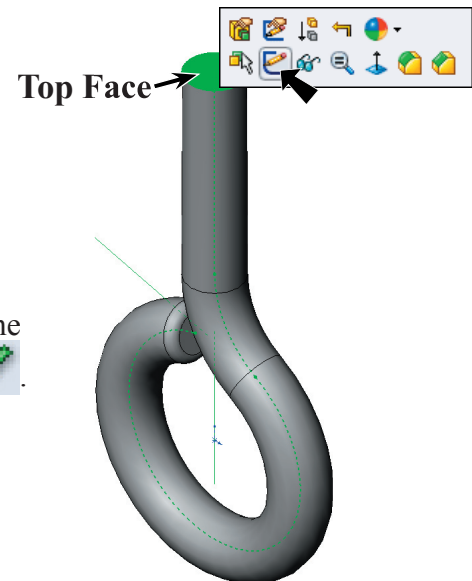

Fig. 15
- Step 1. Click the **top face** and click **Sketch**  on the Content menu, **Fig. 15**.